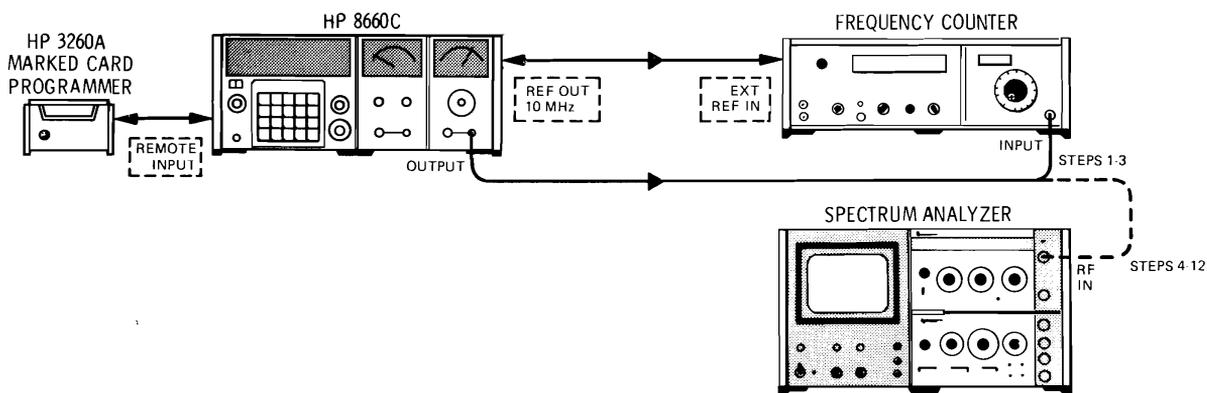

Figure 5-17. Typical Remote Programming Test Setup
5. Using the MANUAL SWEEP control set frequencies shown in Table 5-11 and make the indicated adjustments. Adjustment locations are shown in Figure 5-17. All adjustments must be ±1 millivolt.